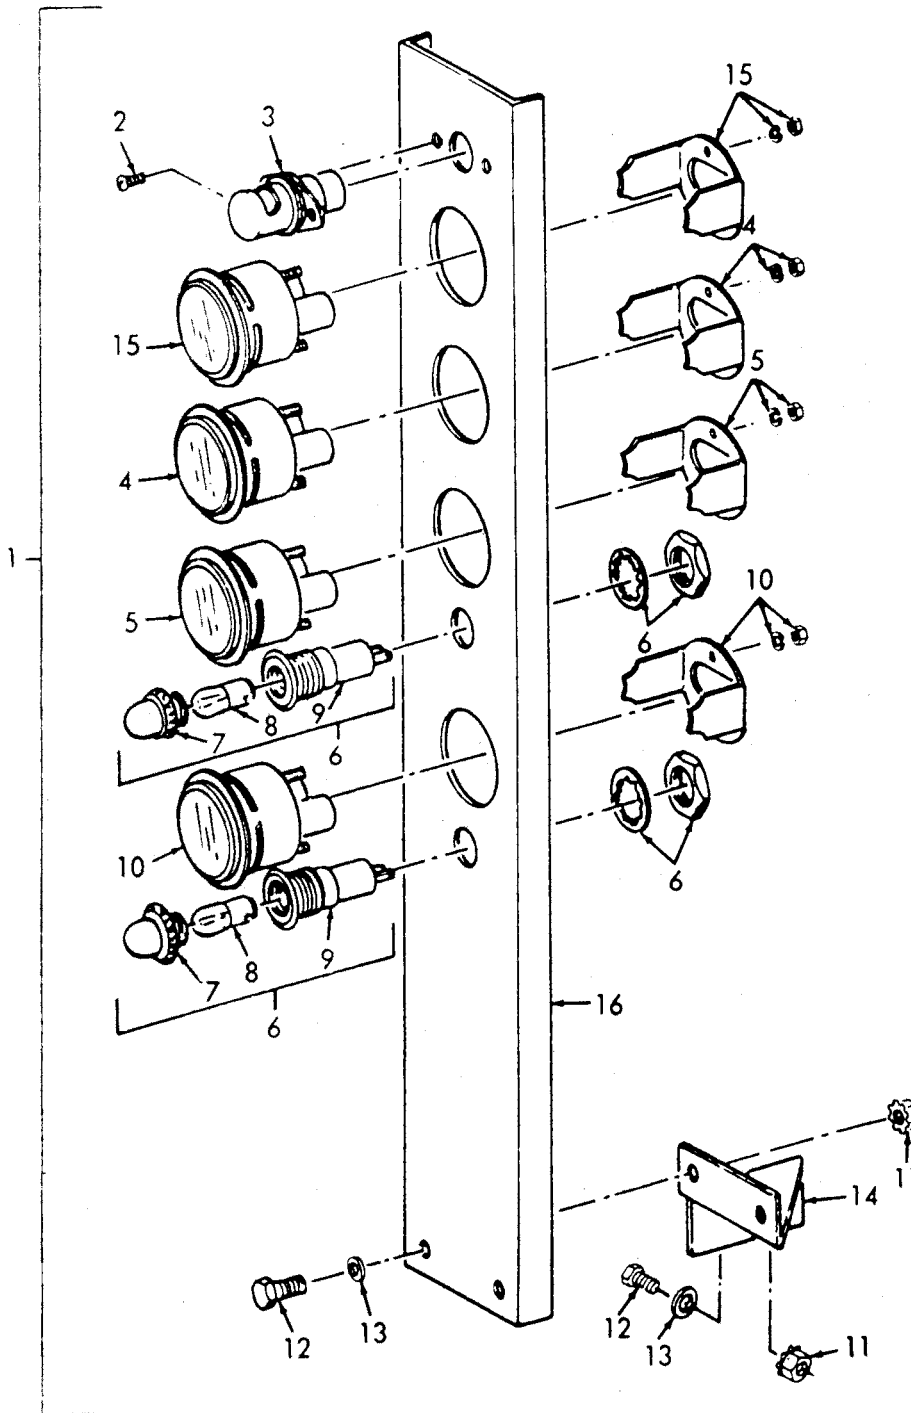

Figure 18-10. Engine Control Panel, Right Hand.
- a. Removal. Refer to figures 18-10 and 18-11 for the removal of the right hand side and left hand side engine control panels.
- b. Installation. Refer to figures 18-10 and 18-11 for the installation of the right hand side and left hand side engine control panels.
## LEGEND FOR FIGURE 18-10: